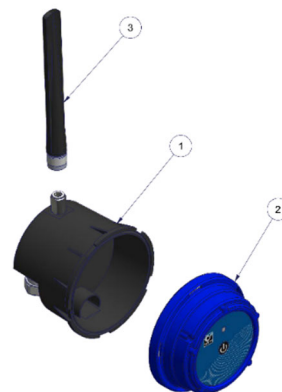

Figure 1 D35 parts
- (1)** or **(A)**: Circled numbers and letters in the text refer to the parts described in Figure 1 and 2 respectively (example: Figure 1 - page 5)